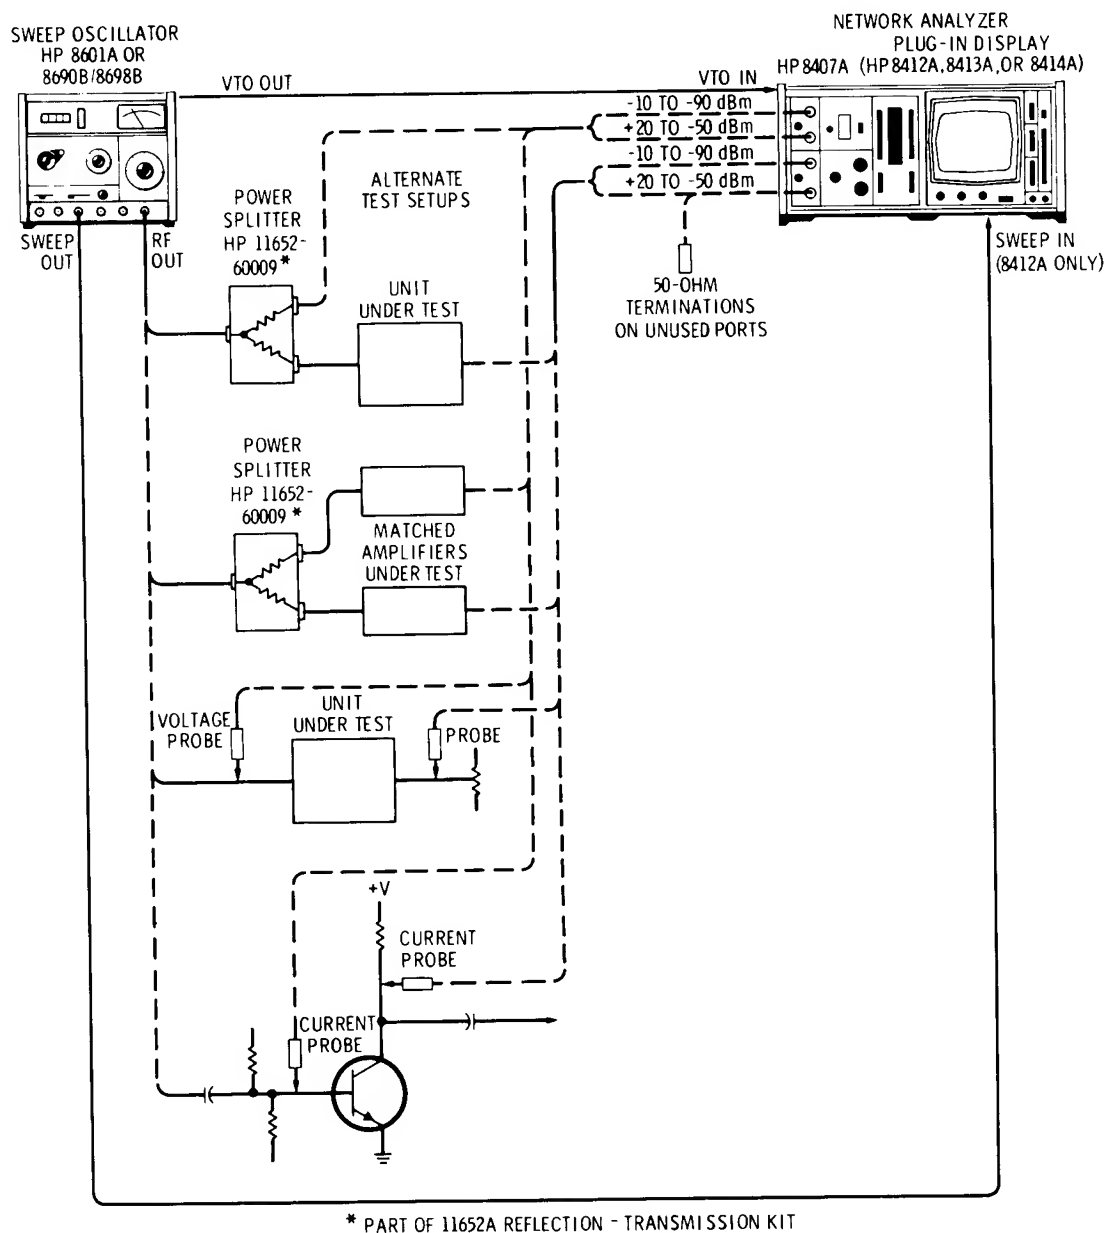

Figure 3-3. Transmission Test Setup
1. Connect equipment as shown in Figure 3-3, selecting one of the alternate test setups. Determine the approximate signal levels at the reference and test channel inputs and select either the DIRECT or ATTEN input connector for each channel.